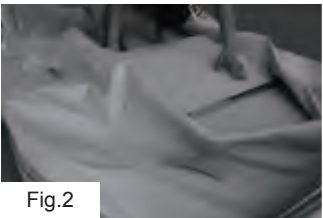

Fig.2
b. Insert second and last sections of the floor.(Fig.2)